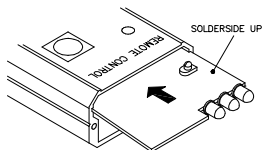

FIG 4.0
- ☐ Carefully push the pcb into the housing (fig.4.0)